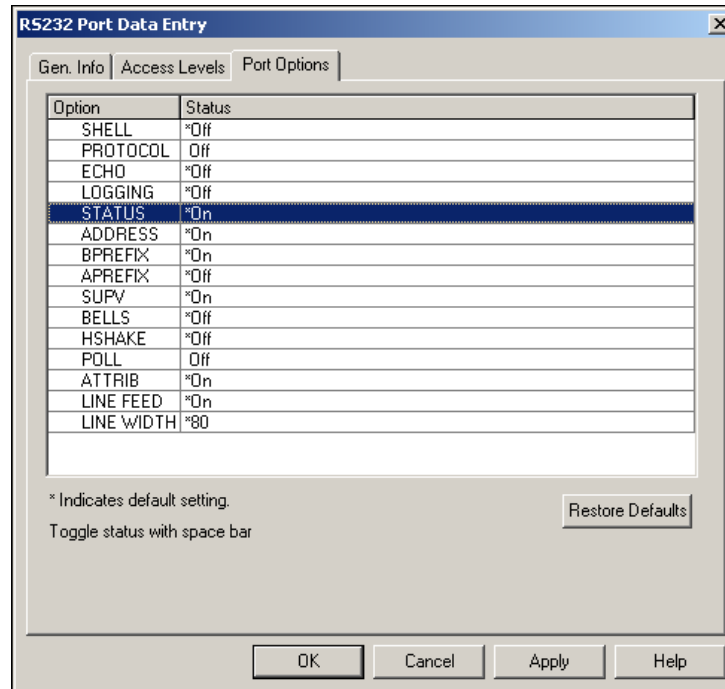

Figure 22. Port Options
- Click on the **Port Options** tab (see Figure 22).